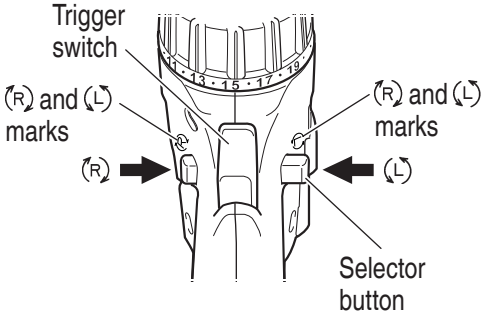

Fig. 7
- The bit rotates clockwise (viewed from the rear side) by pushing the R-side of the selector button. The L-side of the selector button is pushed to turn the bit counterclockwise. (see **Fig. 7**). (The (L) and (R) marks are provided on the body.)